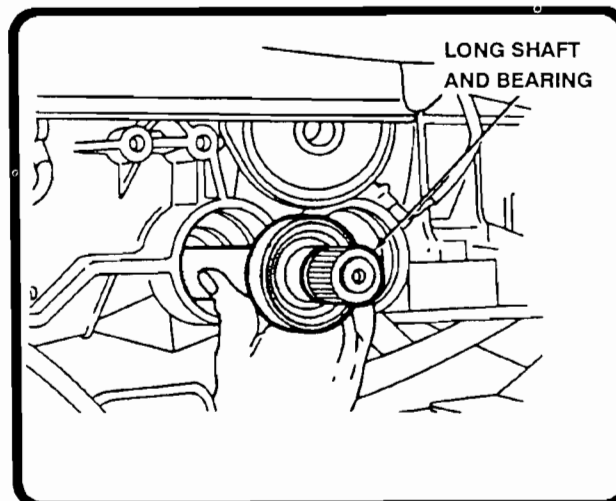

Figure 4
4. Remove the long shaft and bearing from the case (Figure 4).